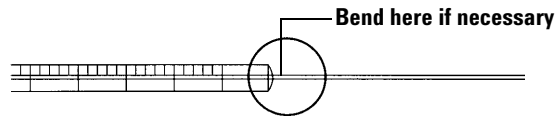

Figure 39 Inspecting the syringe
- 1 Roll the syringe on the edge of a clean flat surface. If the tip of the needle moves in a circle, straighten the shaft by bending it slightly near where it connects to the syringe barrel and check it again (Figure 39).